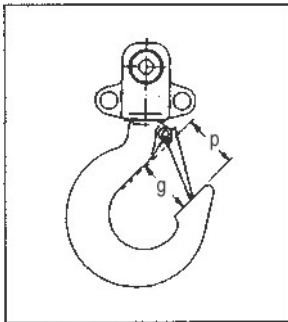

FIGURE 8
Refer to safety standard for hooks, ANSI B30.10 hooks will yield under excessive load. Check throat opening frequently (FIGURE 8, TABLE 2) shows throat opening of new hook and the dimension which indicates a need for replacement.
1. Measure throat opening from metal to metal of hook. (g - FIGURE 8). DO NOT measure from latch (p - FIGURE 8).